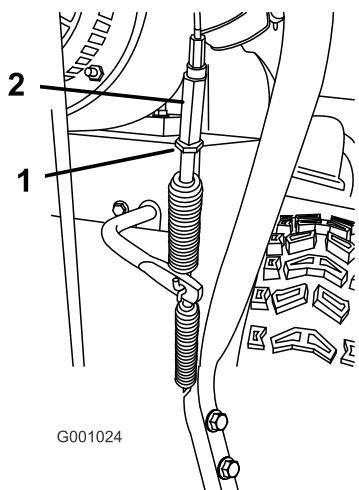

Figure 49
- Loosen the jam nut (Figure 49).
- Loosen or tighten the turnbuckle that adjusts the tension on the cable (Figure 49).